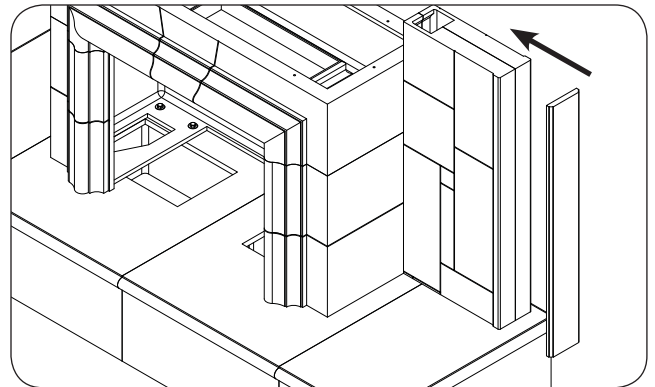

Fig. 18-4 Assemble end side-wall (skip if n/a)
4. Place the end side-wall piece against the front and rear side-walls as shown in Fig. 18-4 (no hardware required).